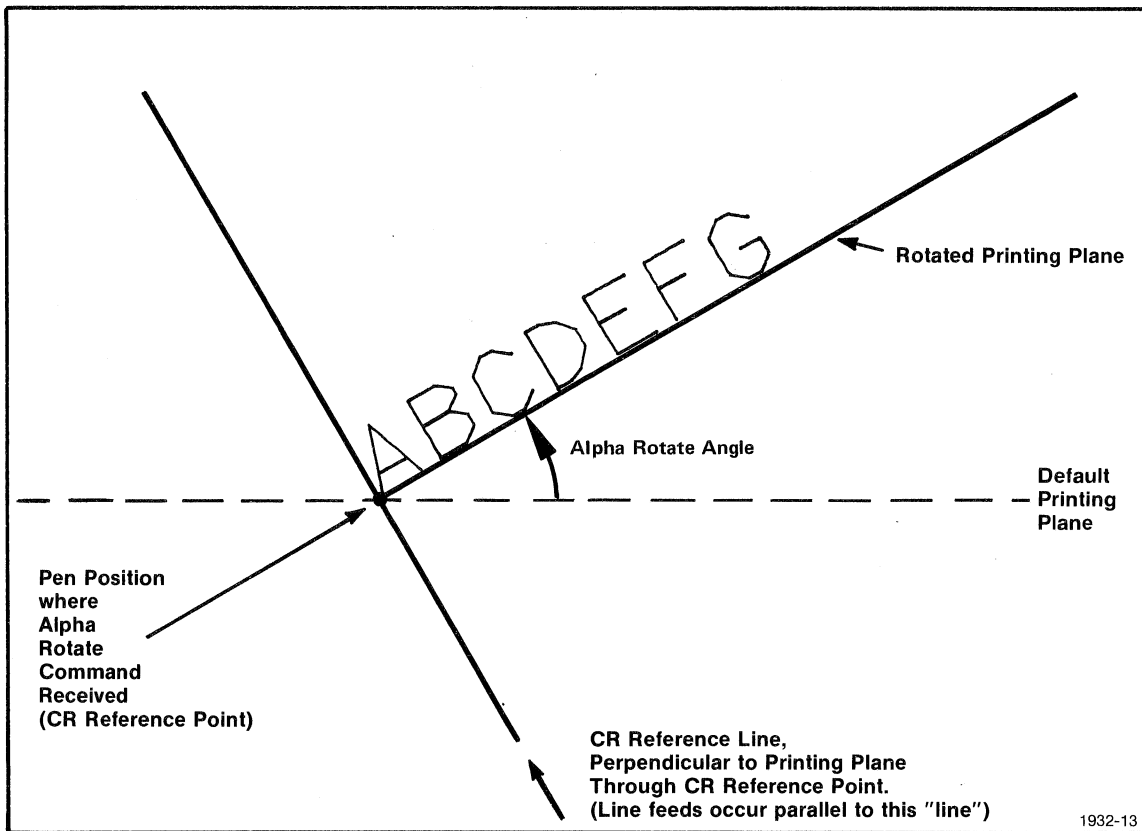

Fig. 2-19. Alpha Rotate, showing the new Carriage Return/Line Feed references.
In addition, the Alpha Rotate command sets the current pen position as the carriage return (CR) reference point in a line perpendicular to the rotation angle set through the current pen position. This is used for CR, LF, and VT commands encountered in Print operations (Refer to Fig. 2-19).